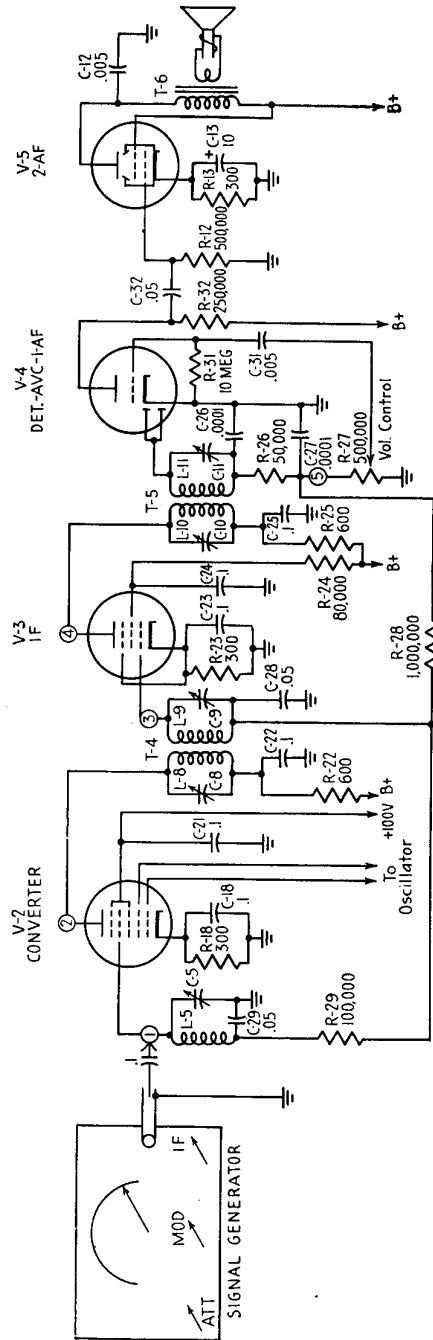

Fig. 13-22.—Signal check for locating trouble in an IF amplifier.
The test oscillator, receiver, and output meter are connected as shown in Fig. 13-22. The signal generator is adjusted for modulated output on the IF band. The receiver is adjusted for maximum volume, minimum bass response, and maximum selectivity (if there is such a control); the RF portion is made inoperative by shorting the oscillator section of the gang tuning condenser. Let us assume normal operation of the audio amplifier, as proved by a normal response when an audio test signal is applied to point ⑤, the input of the AF amplifier, and no response or weak response when a modulated signal at the intermediate frequency is applied to point ①, the converter signal grid.
STEP 1. The test lead from the signal generator is moved to point ②, the converter plate.
STEP 2. The test lead from the signal generator is moved to point ③, the IF grid.